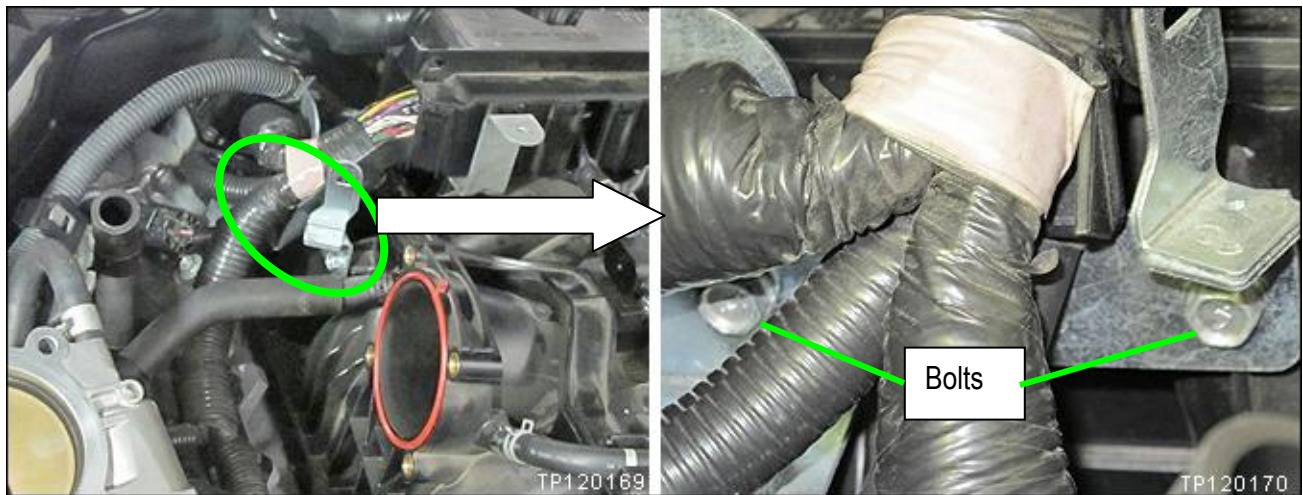

Figure 8m
13. Remove 2 harness bracket mounting bolts shown in Figure 8m; passenger side of engine.